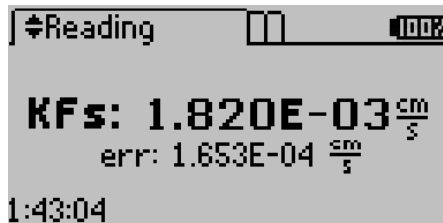

Figure 21 Results screen
- **Results Screen.** After a test is complete, the Results screen replaces the Status screen. It shows the resulting K_f of the test (Figure 21). The error (err) value also appears on the Results screen. The err is the standard error of the K_f reading and represents the amount of noise in the measurement. Press **UP** and **DOWN** to change Reading screens or press the **POWER/MENU** button to navigate to the Configuration tab.